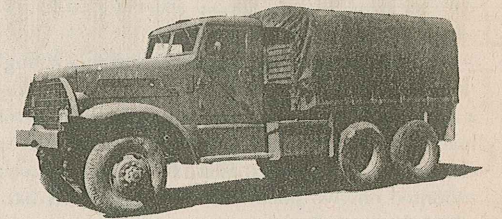

FIG. 8. 6-TON, 6X6, TRUCK
*The 6-ton, 6 x 6.*—This vehicle is the prime mover for the mobile 3-inch and the 90-mm. antiaircraft guns (Fig. 8).